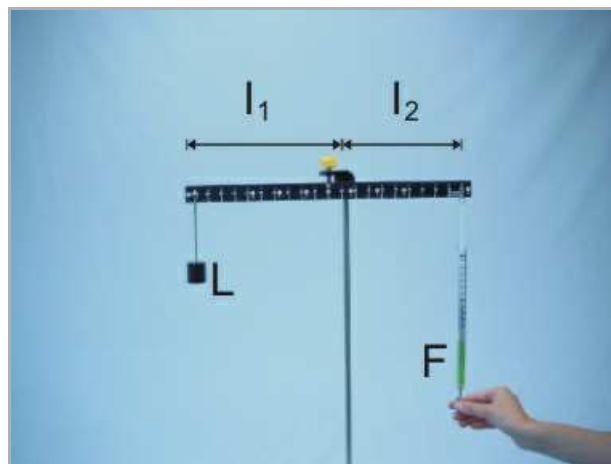

Abb. 6
- Hang the spring balance on the right side of the lever at the 10 mark and pull the lever into a horizontal position with it (Fig. 6).